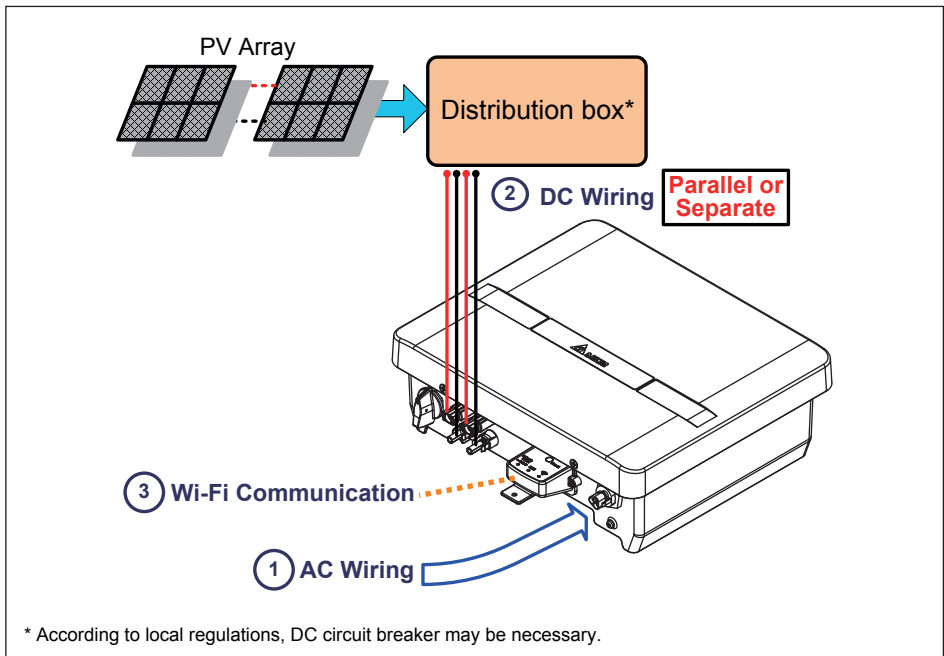

Figure 5-1 : Connection of a system for floating solar array
4. Please refer to **Figure 5-1** for connections. Inverter can accept DC inputs in parallel.